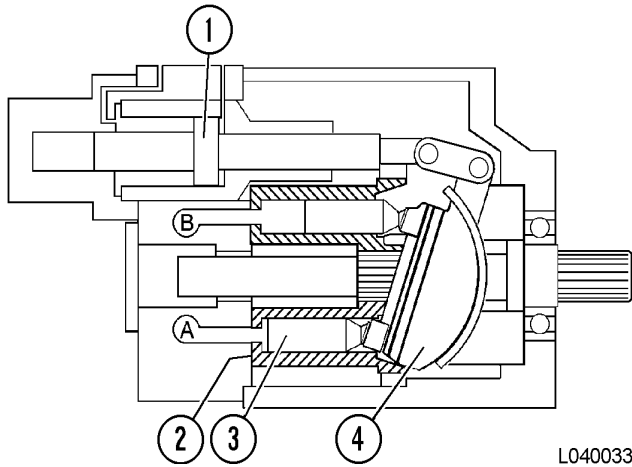

FIGURE 10-8. FULL PUMP VOLUME
Control piston (1, Figure 10-8) controls the angle of swashblock (4). When the control piston moves to the full right position, the pump is at maximum pumping capacity.